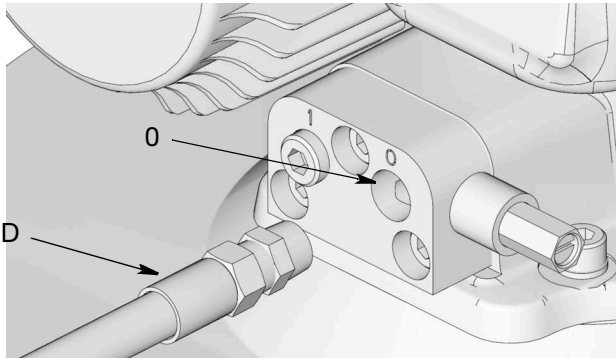

FIG. 63: Lubricant Outlet Connection
- Connect the timer/controller (F) (user supplied, if used).
- Connect High Pressure Lubricant Supply Line (D) to the Lubricant Output Connection (O) (FIG. 63) on the Vent Valve or Manifold.